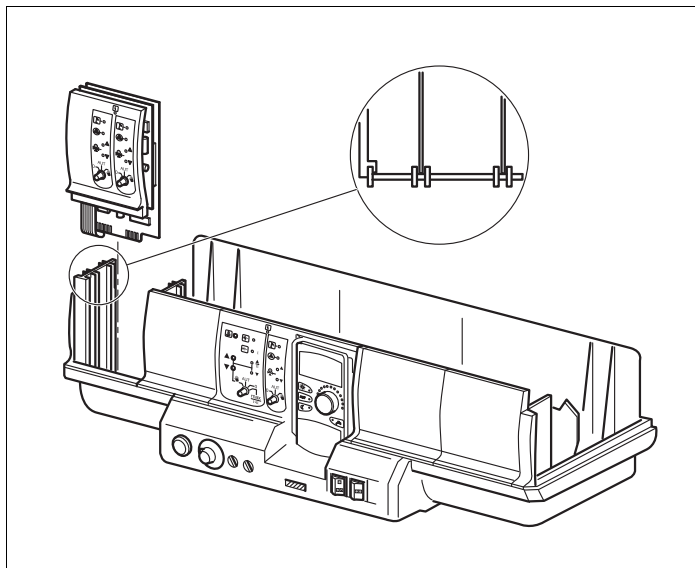

Fig. 4 Module installation and removal
- Remove blank from slot 1 (→ Fig. 4) in the control panel.
- Insert the new module by pressing it down from above onto the sensor strip in the free slot (→ Fig. 4) until it snaps in audibly.
- Insert the new module by pressing it down from above onto the sensor strip in the free slot (→ Fig. 4, page 14) until it snaps in audibly.